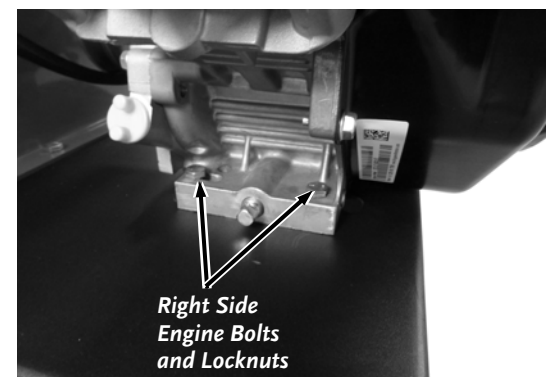

Figure 22
3. Loosen the two, right side Engine Mount Bolts and Locknuts using two 1/2" Wrenches (Figure 22).